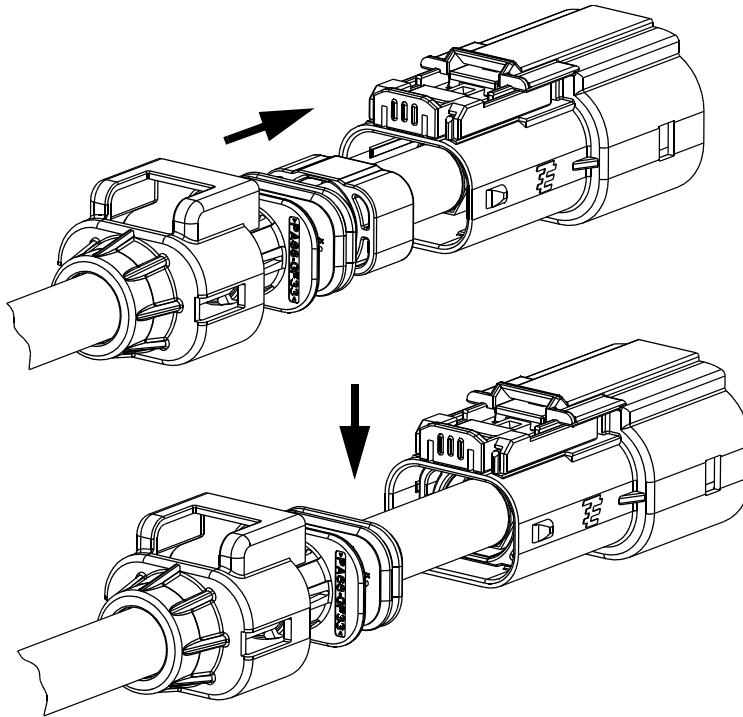

Figure 20
19. Slide the spacer forward on the cable and into the cable exit end of the connector assembly until it stops against the inside of the connector outer housing as shown in Figure 20.